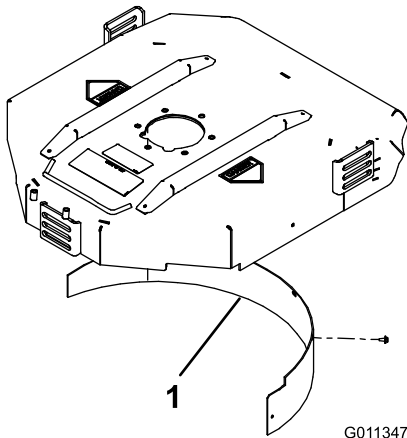

Figure 6
- Install the mulching baffle in the rear opening and secure it with 5 flange head bolts (Figure 6).